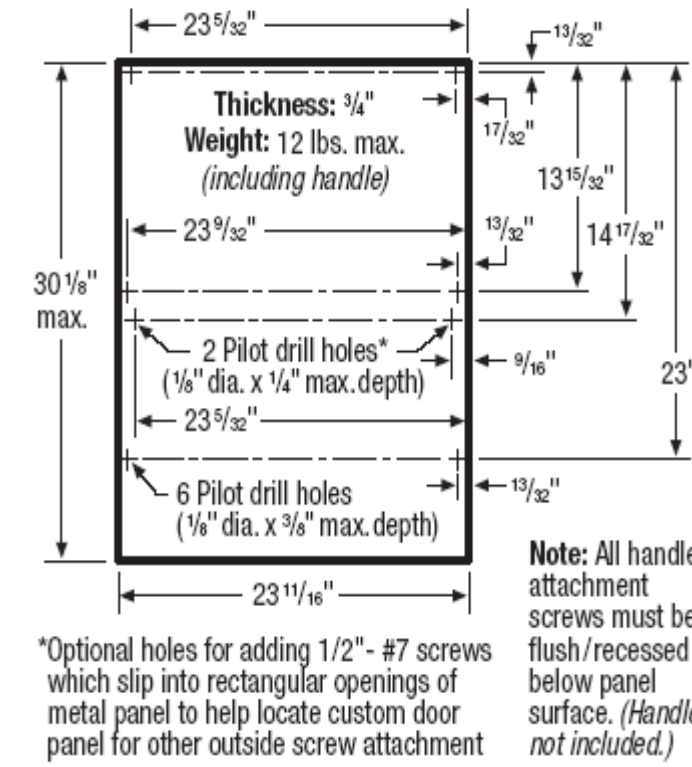

Figure 4
3. Locate water inlet valve behind kickplate on bottom left underside of unit. See Figure 4. The valve has a  $\frac{3}{8}$ " NPT female fitting. Remove Plug
4. Wrap 90° elbow (not included) with pipe thread tape (or apply joint compound) and thread it into water inlet valve. When tightened, elbow should point toward the left. To prevent bending of bracket or breaking of valve, avoid overtightening. See Figure 4.
Refer to the Figure 4 for instruction references.